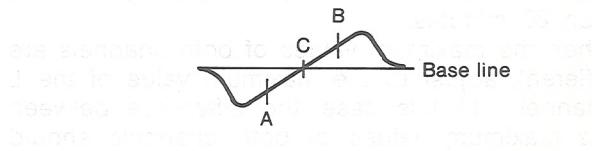

Fig. 7
2. Use the T202 core to form the S-curve shown in Fig. 7. Adjust the symmetry of A and B about point C for linearity.